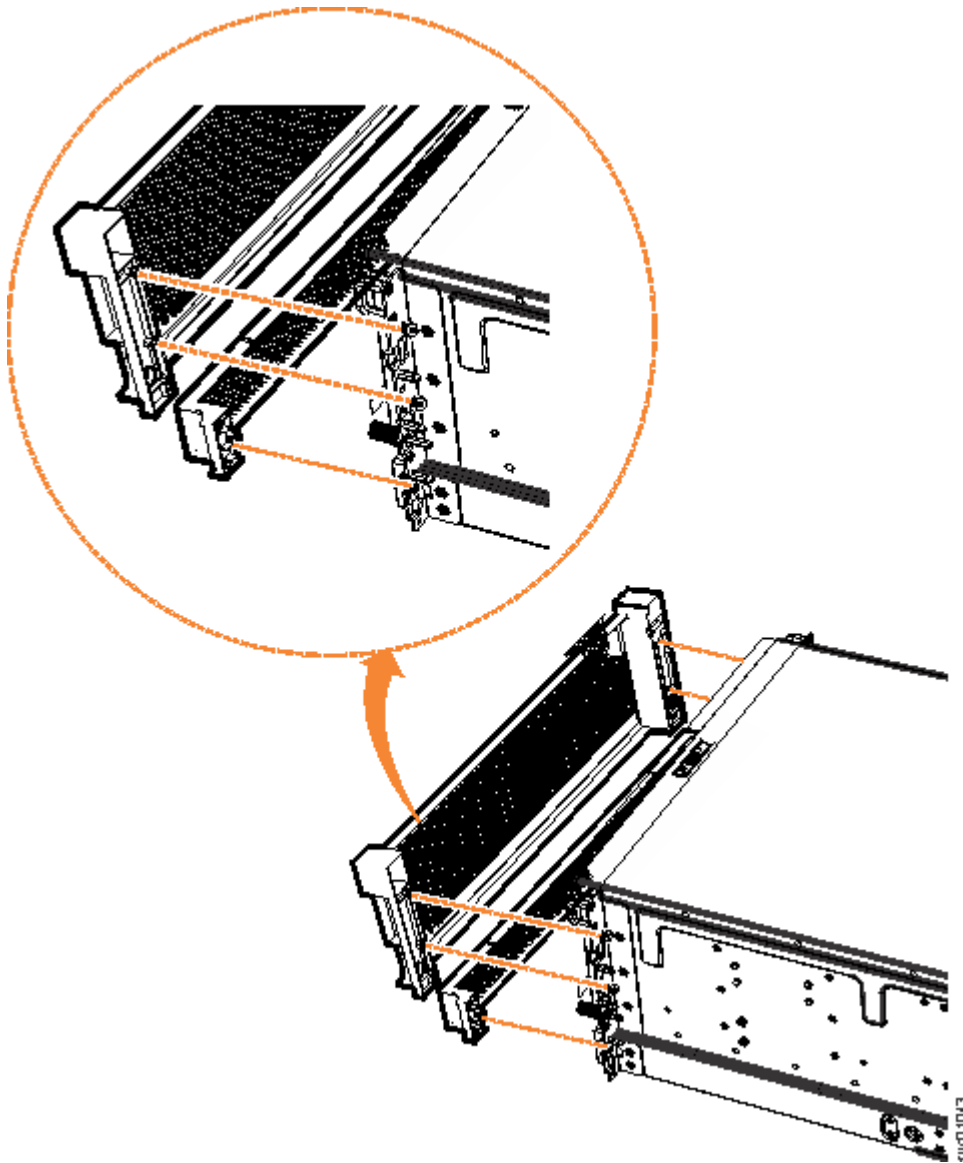

Figure 85. Remove fascia components from the expansion enclosure
2. Remove the front fascia by removing the two screws that attach the fascia to the flange on each side of the chassis, as shown in Figure 85 on page 74.
3. Gently pull on each side of the PSU fascia to remove it from the chassis, as shown in Figure 85 on page 74. The PSU fascia disengages from the slot and pin that connect it to each side of the chassis.